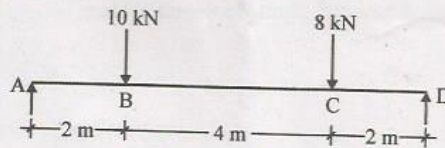

Fig. 14 (a)
- (b) The moment of inertia of a symmetrical section of a beam about its neutral axis is 2640 cm^4 and its depth is 20 cm. Determine the longest span over which, when simply supported, the beam would carry a UDL of 6 kN/m run without the stress due to bending not exceeding $1.2 \times 10^5 \text{ N/mm}^2$. (16)
14. (a) Determine the slope at the supports and maximum deflection for the beam given in fig. 14 a use Macaulay's method. (16)